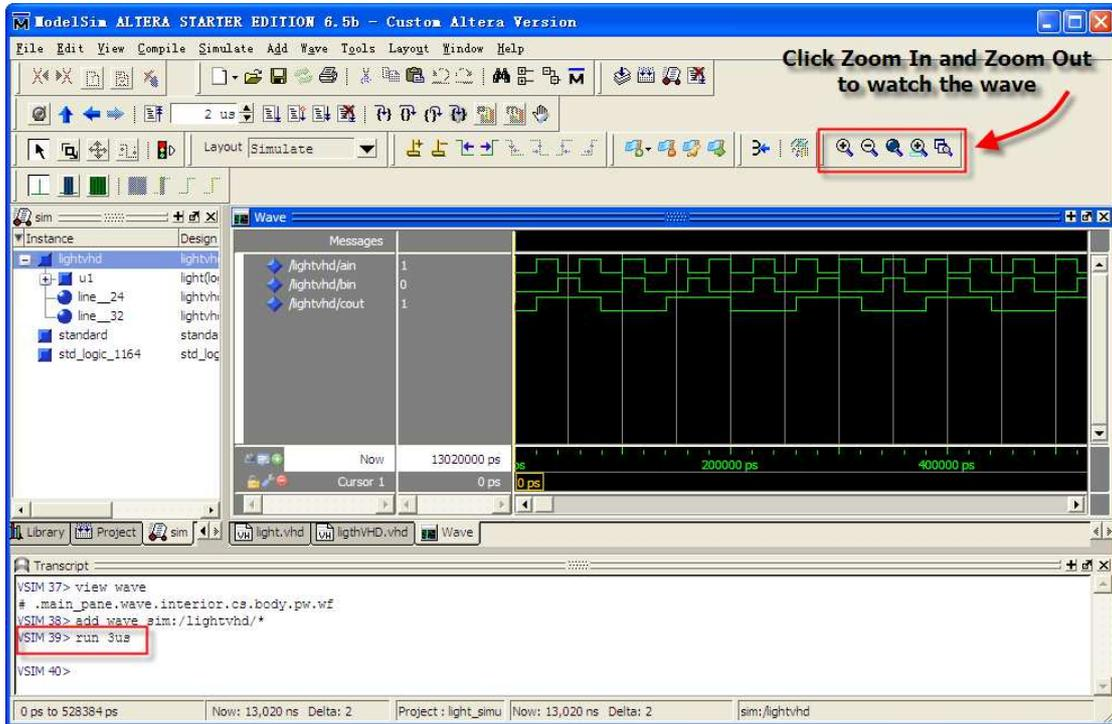

Figure 41. Waves Drawn in Wave Window
a. Enter **run 3us** at the **VSIM>** prompt in the Transcript window (Figure 41).